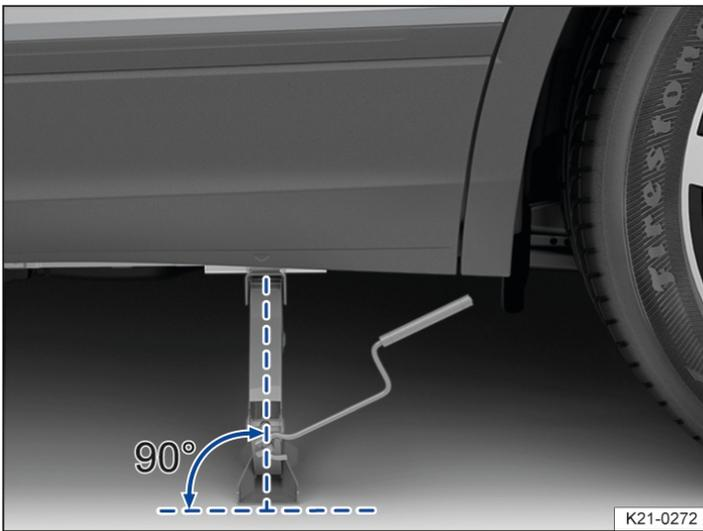
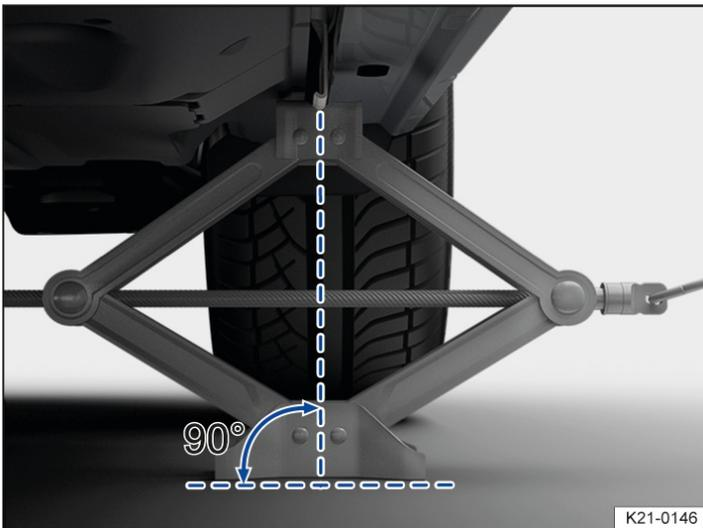

Fig. 2 Correct alignment of the jack.
Fig. 3 Jack applied at the rear left-hand side of the vehicle.
12. Make sure that the entire surface of the foot of the jack is resting securely on the ground and that the foot of the jack is positioned vertically directly beneath the jacking point *→ Fig. 2* and *→ Fig. 3*.
13. Position the jack and simultaneously continue to crank the claw up until it is in position around the jacking point underneath the vehicle *→ Fig. 3*.
- Fit the jack only at the described jacking points. The jack claw must grip the vertical rib under the side member securely → *Fig. 3*.